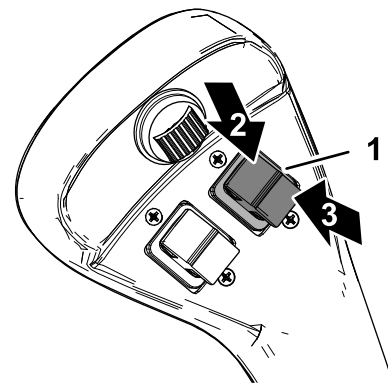

Figure 14
- Press the loader arm extend/retract switch (Figure 14) up to extend the loader arms.